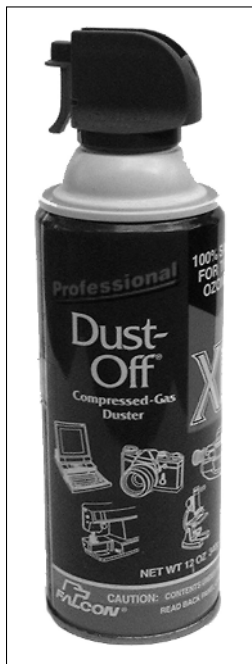

Figure 3-7: Canned air? You bet, and it's great for blowing dust and dirt off delicate electronics.
- ✔ **Compressed air:** You can remove dust from delicate electronic innards with a shot of compressed air. You can buy compressed air in cans, such as the one in Figure 3-7.